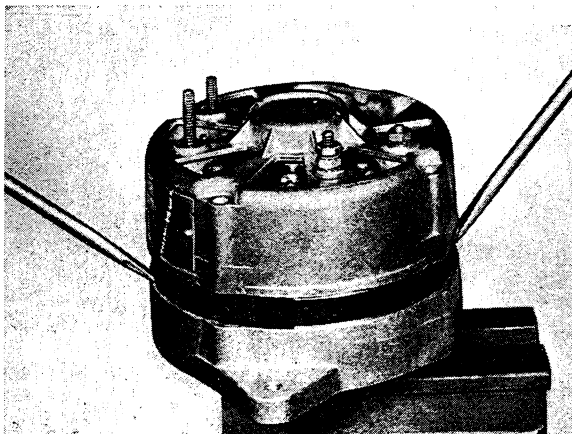

Fig. 3-8. Dismantling alternator
6. Remove the rotor and drive end shield with the help of two screwdrivers, which are inserted in two of the sockets between the stator and drive end shield, see Fig. 3-8.